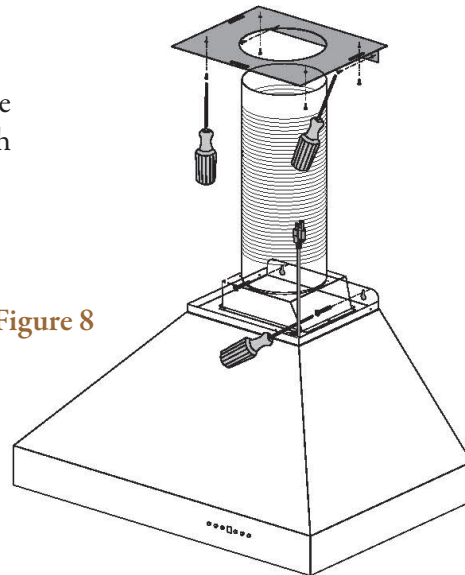

Figure 8
- 9 Install the chimney on top of the hood. Secure the lower portion with the provided screw at the bottom. (Figure 8)